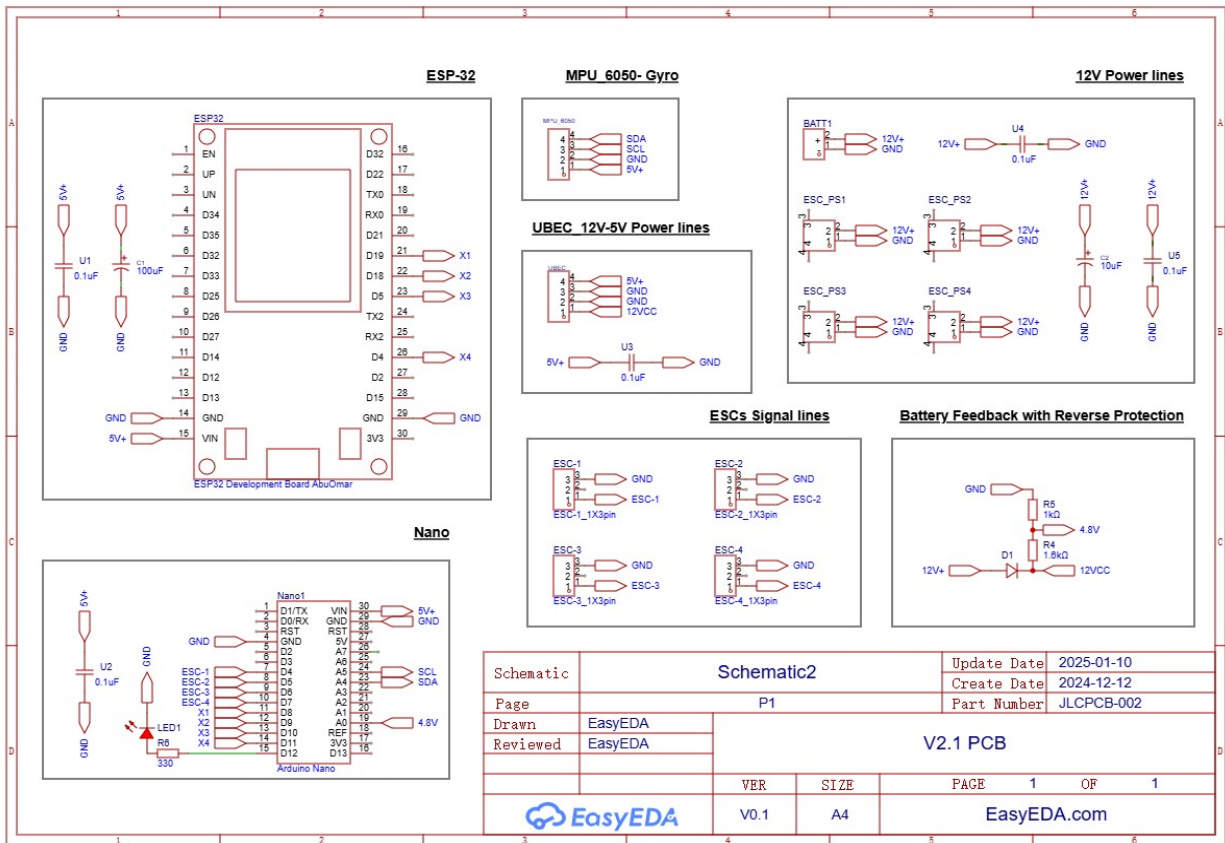
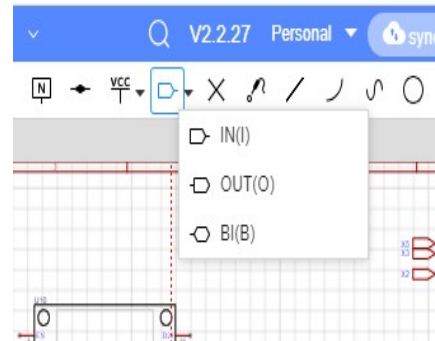

Fig. 2 Example of Component Placement in Schematic
Fig. 4: Example of pin label
The ESP32 board is used as a wireless receiver for signals from external devices like mobile phones or remote controllers. It processes the received signals and transmits appropriate outputs to the NANO via pins X1 to X4, as shown in Fig. 2. A decoupling capacitor is used to minimize noise and interference on the PCB.
- b. Arrange the components logically, keeping related components close to each other as shown in Fig. 2.
- Make a connection as given in the schematic example shown in Fig. 2.
- The **"Pin label IN/OUT"** as shown in Fig. 4 allows for cleaner and more organized routing by creating tracks instead of direct wire connections, helping to avoid clutter and unwanted interconnections, as shown in Fig. 2.